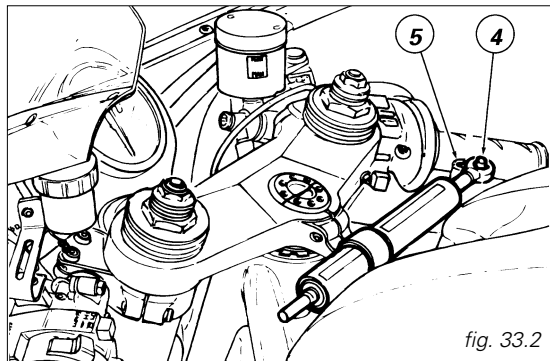

fig. 33.2
When finished, the steering damper must be repositioned. Undo the screw (4, fig. 33.2). Move the damper rod joint to the frame hole (5). Tighten the screw (4) previously removed and apply some medium-strength threadlocker.